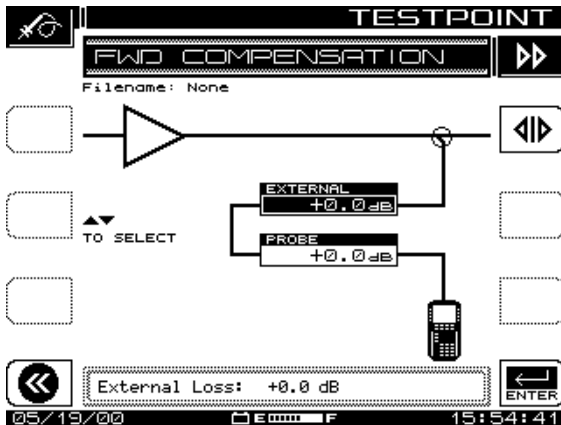

Fig. 4-1 The FWD COMPENSATION Screen
1. To adjust and review these levels, press the **and 7 stu** keys to call up the FWD COMPENSATION screen shown in Fig. 4-1. (You can also use the NAVIGATOR interface's TESTPOINT item to get to the FWD COMPENSATION screen.)